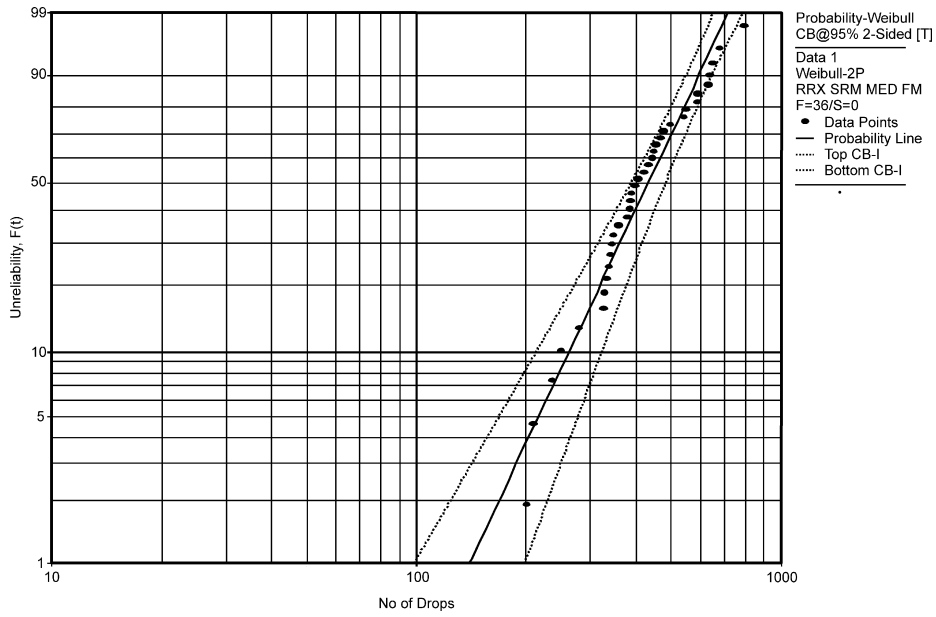
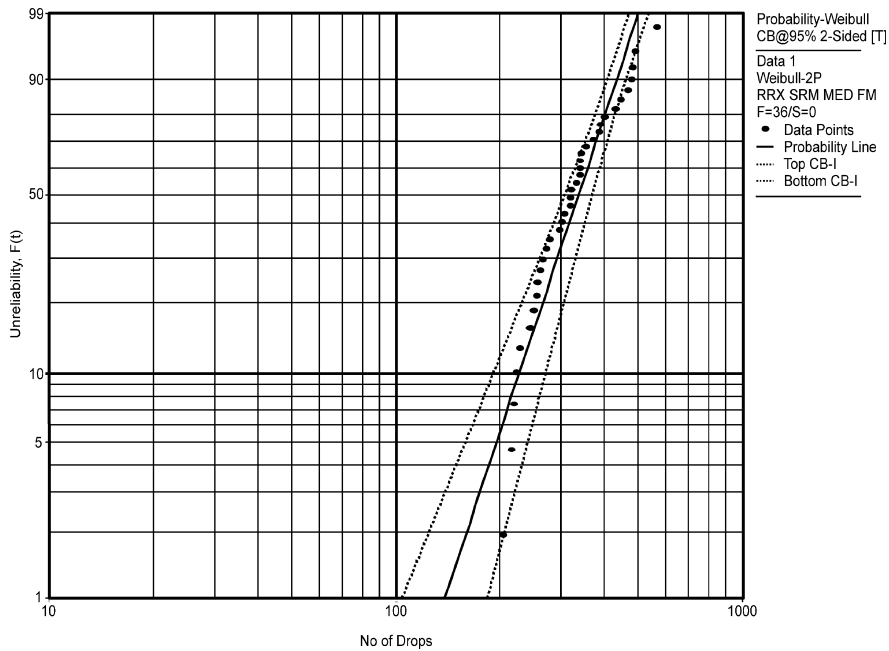

Figure 6. DSBGA 0.5 mm Pitch, 30 Bumps
Figure 11. DSBGA 0.3 mm Pitch, 36 Bumps
4. DROP TEST: Drop test results are shown in Figure 6 — Figure 11. Drop test were performed with the following test conditions: